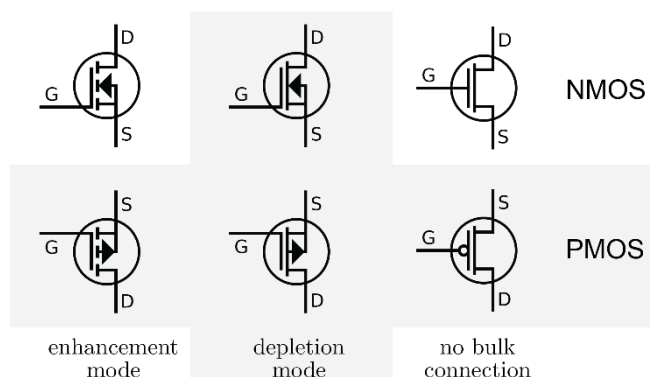

Figure 1. Comparison of MOSFET symbols for enhancement-mode, depletion-mode, and no bulk connection transistors
A field effect transistor (FET) is a voltage controlled device where its current carrying ability is changed by applying an electronic field. A commonly used type of FET is the metal-oxide semiconductor FET (MOSFET). MOSFET are widely used in integrated circuits. MOSFET work by inducing a conducting channel between two contacts called the source (S) and the drain (D) by applying a voltage on the oxide-insulated gate electrode (G). There are two main types of MOSFET called NMOS and PMOS depending on the type of carriers flowing through the channel. Figure 1 shows the circuit symbols for different types of MOSFETs.